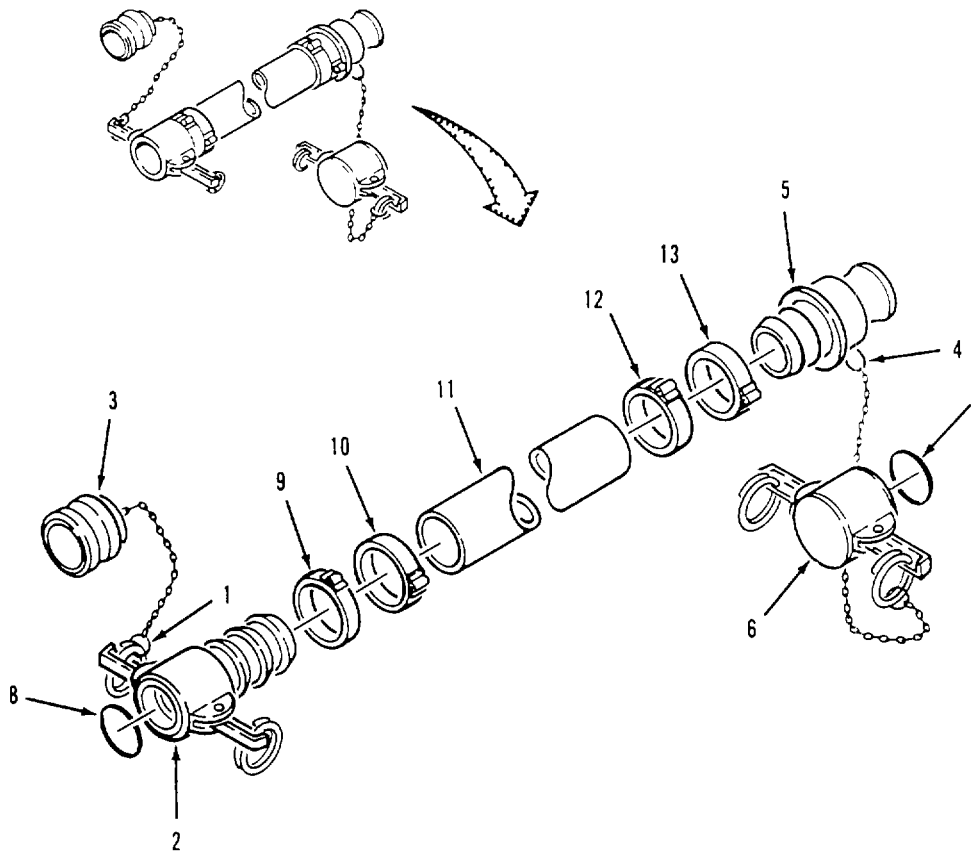

Figure 4-6. Discharge and Suction Hose Disassembly.
a. Disassembly. Refer to figure 4-6.
- (1) Disconnect split ring (1) from female coupling (2) and remove dust plug (3).
- (2) Disconnect split ring (4) from male coupling (5) and remove dust cap (6).
- (3) Remove gasket (7) from dust cap (6).
- (4) Remove gasket (8) from female coupling (2).
- (5) Cut strapping (clamps) (9 and 10) from hose (11). Pull female coupling (2) from hose.
- (6) Cut strapping (clamps) (12 and 13) from hose (11). Pull male coupling (5) from hose.
c. Inspection Refer to figure 4-6.
- (1) Inspect female coupling (2) and dust cap (6) for cracks, corrosion, and damaged locking arms.
- (2) Inspect male coupling (5) and dust plug (3) for cracks and corrosion
- (3) Inspect hose (11) for cuts, tears, punctures and delamination.
- (1) Push male coupling (5, figure 4-6) and female coupling (2) into hose (11).